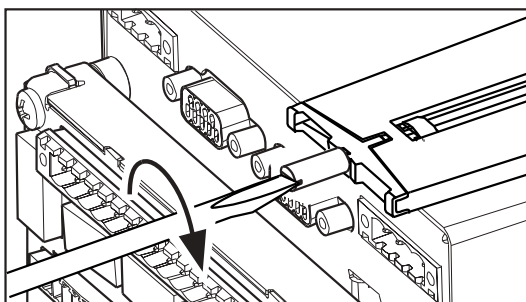

figure 3-3
5. Tighten the screw with a screwdriver until the top of the mounting bracket touches the panel. (figure 3-3)